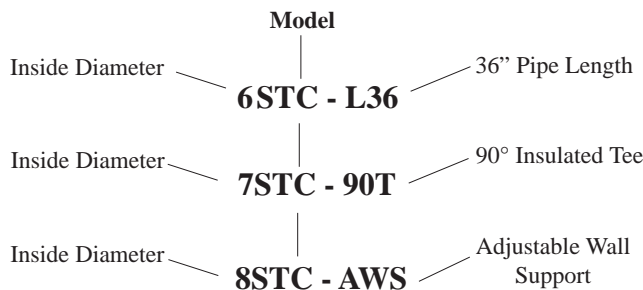

Figure 1 - Example of Product Identifier
The complete part number is prefixed with the ID size, in inches, followed by three (3) letters identifying the system to which it belongs, followed by the actual part identifier (see Figure 1).
Building Regulations as well as the approval procedure to which all prefabricated system chimneys are required to be certificated, dictate that an adequate air gap clearance **MUST** be maintained between the outside skin of the chimney and any combustible material. Clearances become more crucial if the chimney is enclosed. The increase in temperature within any enclosure must be dissipated for safety reasons. The approval process for the Selkirk STC Chimney system requires the air gap distance to be not less than 50mm. Where the chimney passes through a room or cupboard and is enclosed, four ventilation grilles **MUST** be used as shown in fig.1 on page 7.